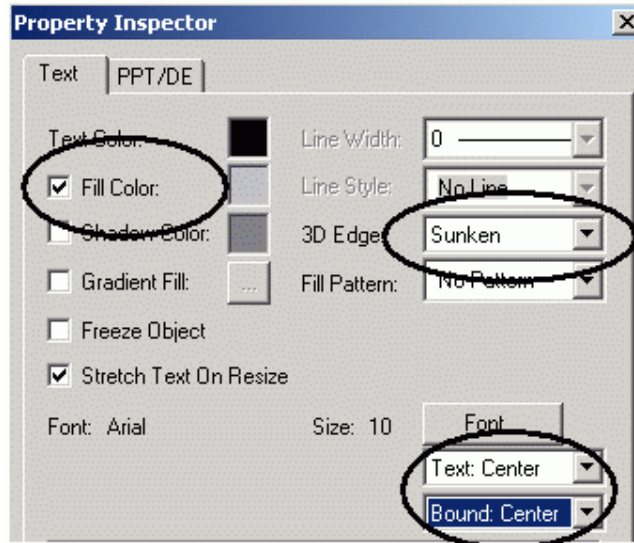

Figure 5.9. Text Tab Properties
5. To adjust how this live data appears, click the **Text** tab at the top of the **Property Inspector** dialog. Make the text centered, with a **Sunken Frame**, and a fill color of **Gray**, as shown in **Figure 5.9**. Then click **OK**.